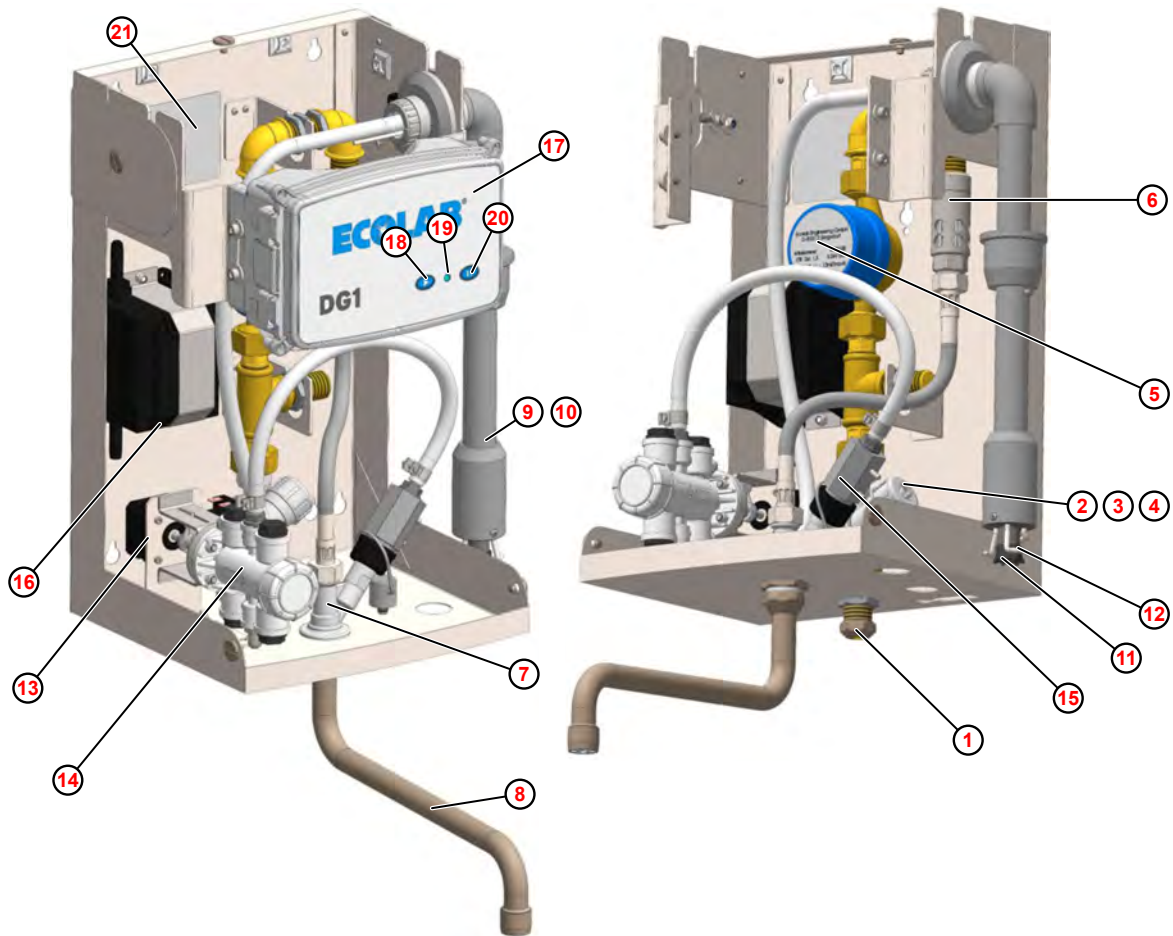

Fig. 2: Component description
To limit the max. water quantity flowing through, a quantity regulator is installed in the solenoid valve ( Fig. 2 , ④ ) on the input side.
The flow monitor (see Fig. 2 , ⑮ ) positioned in front of the admission point constantly monitors the disinfectant flow.